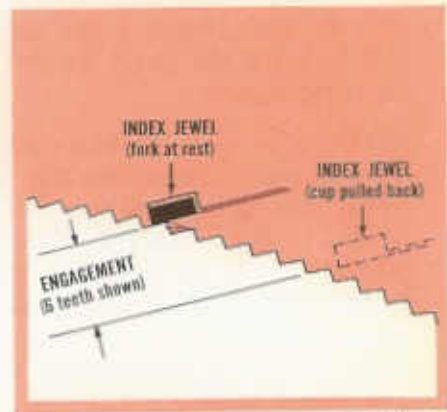

Fig. 13
4. Check the engagement of the index jewel by pulling back the tine of the tuning fork to which the index finger is attached (see Fig. 12). Count the number of teeth the index jewel "drops off" before index jewel pulls away from the wheel (see Fig. 13). THE JEWEL SHOULD DROP OFF 5 TO 8 TEETH. If the number of teeth is smaller than 5 or greater than 8 the engagement can be modified by gently bending the
index finger (and stress limiter) near the end where it is pinned, toward or away from the wheel, using the end of tweezers or a needle. (This operation is similar to that of bending a hair-spring near the stud.) After this adjustment, the engagement should be rechecked (see Fig. 13).